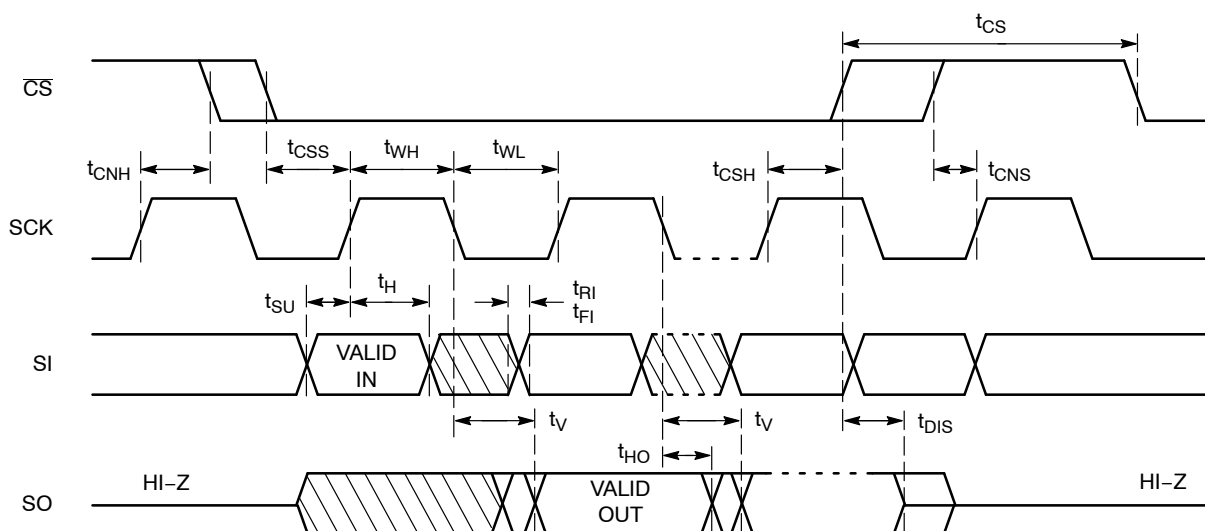

Figure 2. Synchronous Data Timing
9. All Chip Select (CS) timing parameters are defined relative to the positive clock edge (Figure 2). t_{CSSH} timing specification is valid for die revision D and higher. The die revision D is identified by letter "D" or a dedicated marking code on top of the package. For previous product revision (Rev.C) the t_{CSSH} is defined relative to the negative clock edge.
After a high to low transition on the \overline{CS} input pin, the CAT25128 will accept any one of the six instruction op-codes listed in Table 10 and will ignore all other possible 8-bit combinations. The communication protocol follows the timing from Figure 2.